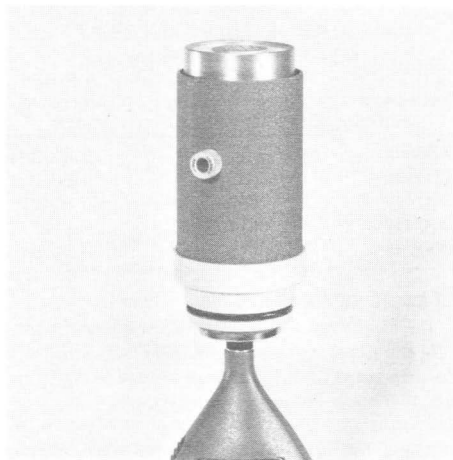

Figure 3-1. Calibrator mounted over SLM microphone.
- c. Place the calibrator, with the Type 1562-6130 Adaptor (1/2 inch) installed, over the microphone of the SLM (as in Figure 3-1).